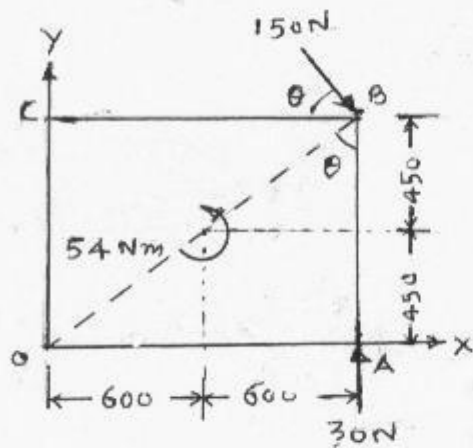

fig. 1 Q. 2(a)
Q.2 (a) For the system of forces on a lamina OABC is shown in **fig. 1**, find magnitude and direction of the resultant force. Also locate the resultant either showing perpendicular distance from point O OR the point of the intersection on X axis/Y axis. **07**